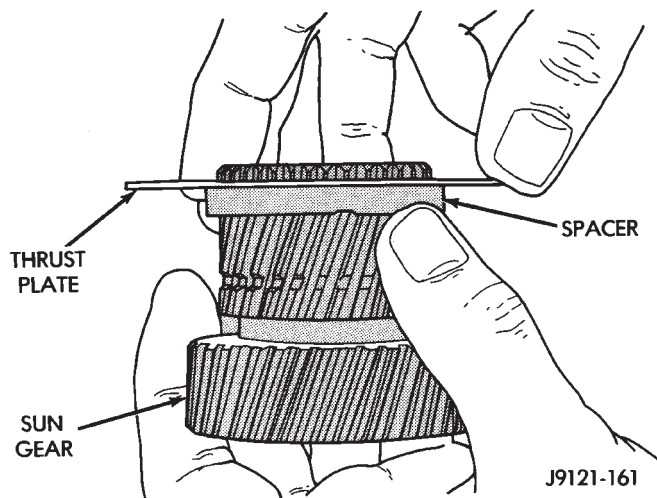

Fig. 74 Installing Spacer And Thrust Plate On Sun Gear
(8) Install thrust plate over sun gear and on top of spacer (Fig. 74). Note that thrust plates are interchangeable. Use either plate on sun gear and rear of driving shell.